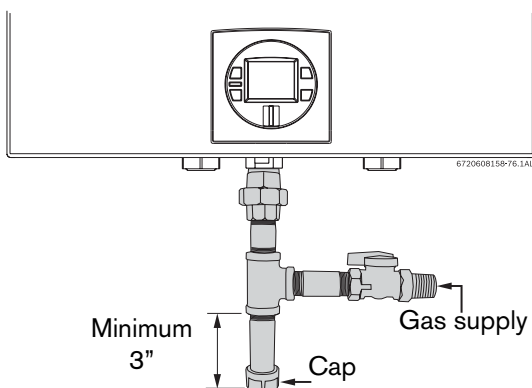

Fig. 25 Gas connection (drip leg)
- ▶ National Fuel Gas Code requires that a sediment trap (drip leg) be installed on gas appliances not so equipped. The drip leg must be accessible and not subject to freezing conditions. Install in accordance with the recommendations of the serving gas supplier, see Fig. 25.